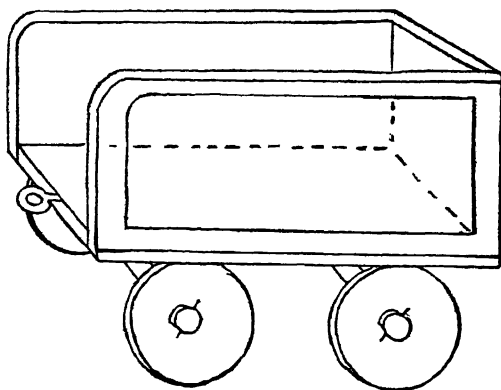

FIG. 233
(2) *The Tender* (Fig. 233) can be made in various ways. The bottom is best made of wood, 4 inches by $2\frac{1}{4}$ inches. The sides may be made of wood, 4 inches by $1\frac{1}{2}$ inches; the back must be cut to fit exactly between the sides. When the back and the sides are